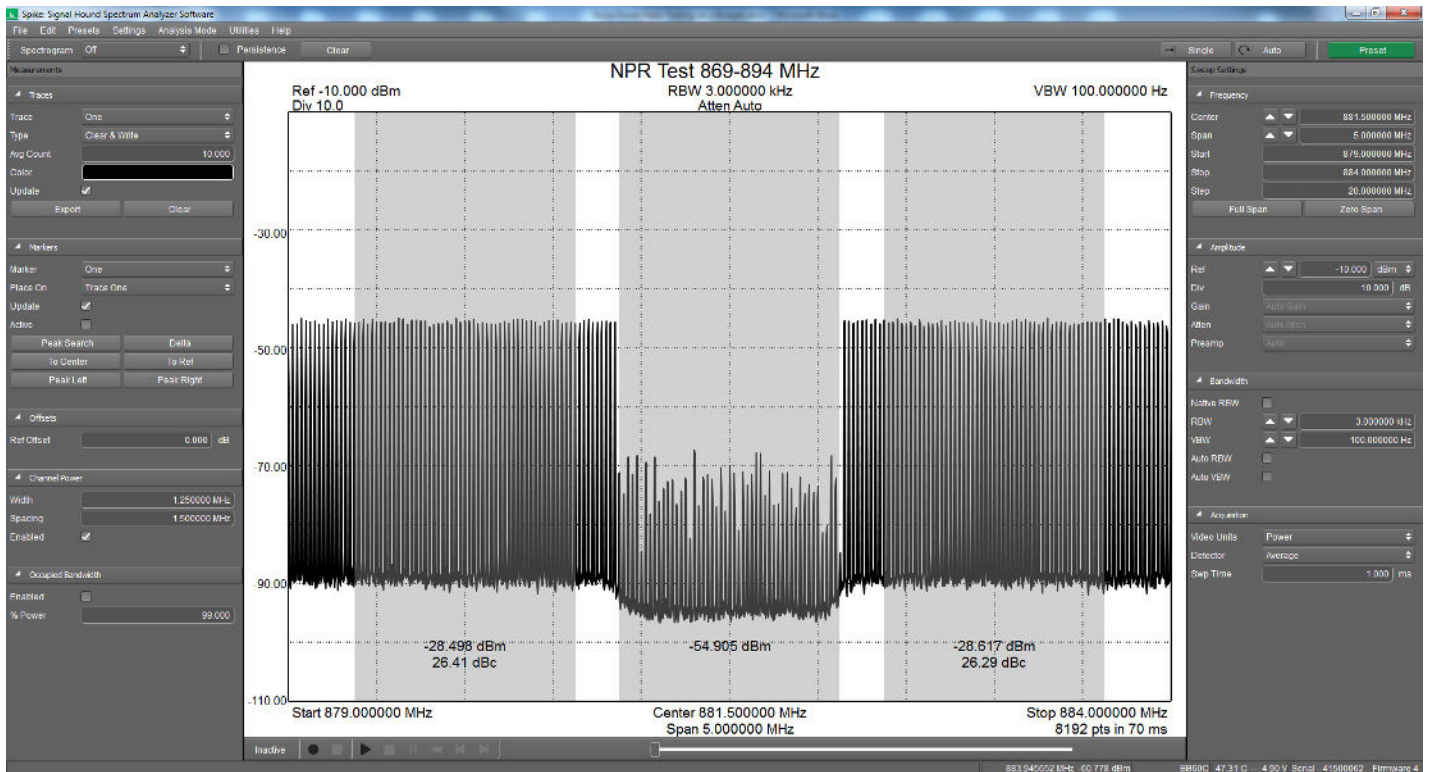

Figure 3—VSG25A 1001-tone, 25 MHz span NPR test of an amplifier. Center 5 MHz shown.
9. Plot results as NPR (dB) vs. input power (see Figure 3 on the next page).